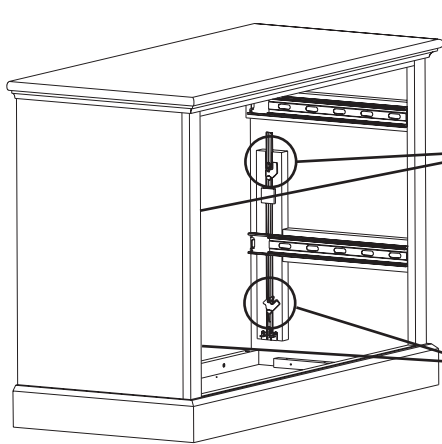

Fig. 7
7. Unlock the bottom and top toggles as shown in Figures 7, 7a and 7b. Line up the drawer slides on the bottom drawer and push the bottom drawer into the cabinet. See Figure 7c.